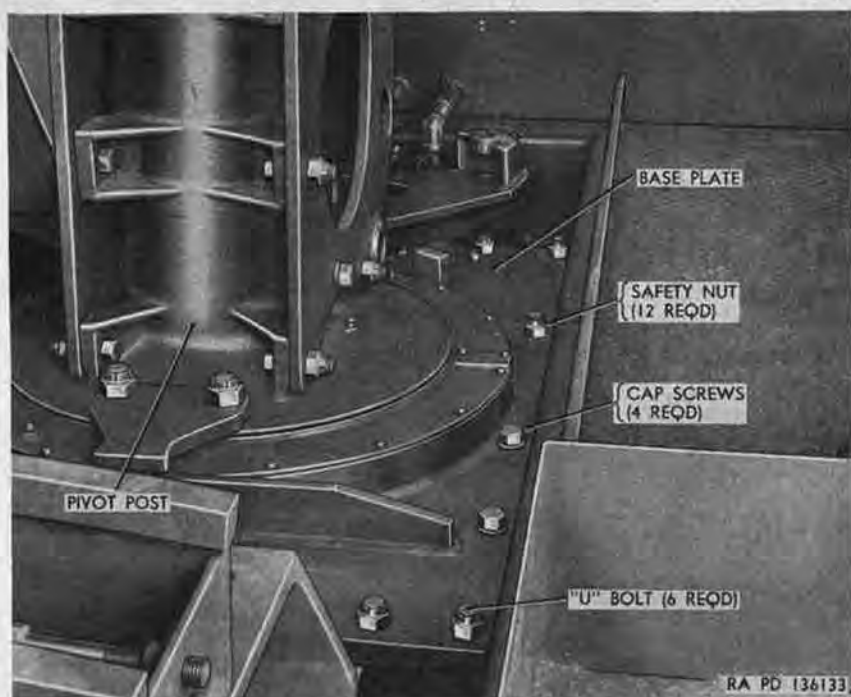
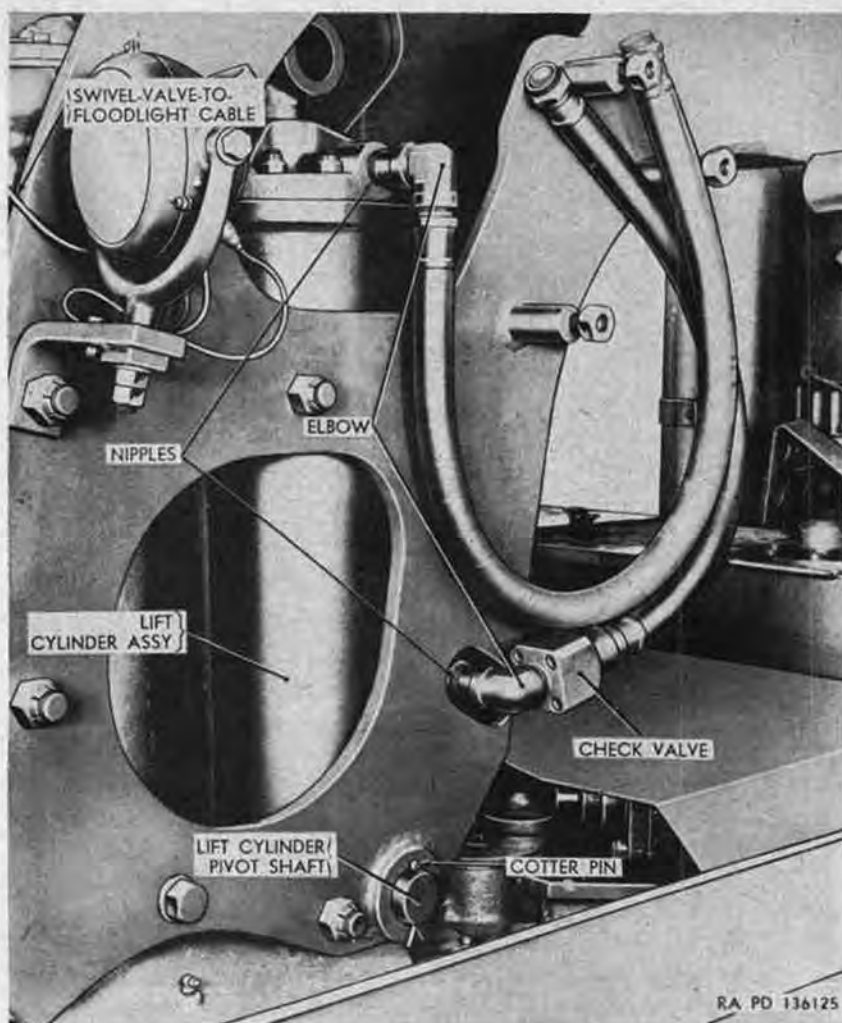
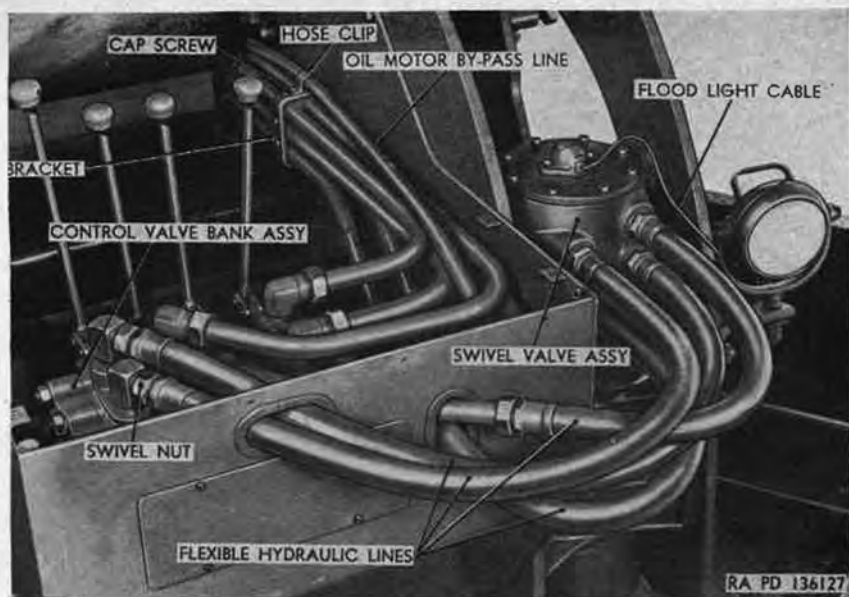
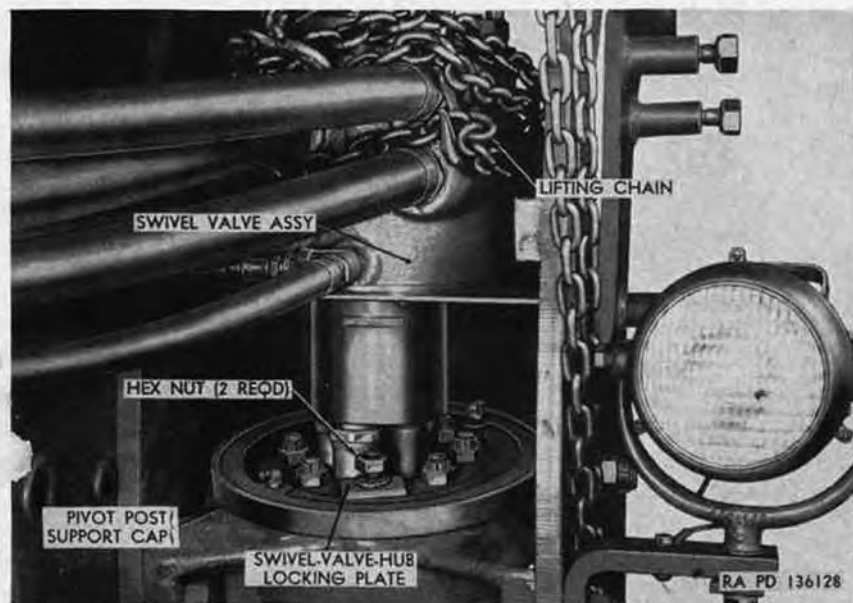

Figure 286. View of lower end of pivot post and base plate M62.
Figure 287. View of left side of pivot post shipper support, and boom lift cylinder.
Figure 288. Front view of operator's compartment and control valve bank assembly.
Figure 289. Front view of upper end of pivot post with swivel valve in raised position.
- (7) *Base plate and pivot post assembly.* The base plate and pivot post assembly as referred to in this paragraph consists of the crane base plate (fig. 286), pivot post (fig. 286), shipper support (fig. 287), swivel valve assembly (fig. 288), and operator's compartment and control valve bank assembly (fig. 288). The combined weight of these units is approximately 3,500 pounds. The base plate is bolted to the crane body, which is bolted to the left and right frame side rails. The pivot post, which is hollow, is internally supported at the top and bottom by tapered roller bearings, which are installed on a tubular support member attached to the base plate. The pivot post support cap (fig. 289) bolted to the top of the pivot post support, anchors the pivot post to the support while permitting the pivot post to rotate freely on its vertical axis. The shipper support, on which the boom and shipper assembly ((10) below) are pivoted, is bolted to mounting
- (9) *Swivel valve* (figs. 288 and 289). The swivel valve assembly (fig. 288) is installed on top of the pivot post support cap (fig. 289) with its lower end extending into the pivot post support. A locking plate secures the valve assembly to the support cap. The swivel valve assembly permits 360° rotation of the crane without twisting or breaking the hydraulic lines from the pump to the driving motor, hoist hydraulic oil motor ((13) below), boom lift cylinder ((11)
- (11) *Boom lift cylinder.* The boom lift cylinder (fig. 287) is vertically mounted to the rear of the pivot post. The lower end of the cylinder is pivoted on a shaft installed between the sides of the shipper support. The upper end of the lift-cylinder piston rod (fig. 280) is pivoted on a shaft installed between the sides of the shipper. Weight of the boom lift cylinder is approximately 265 pounds. By using overhead hoisting equipment to raise the front end of the boom to its position of maximum elevation, the boom lift cylinder can be removed without removal of the boom and shipper assembly. However, the boom lift cylinder removal procedures (par. 278) in this section require removal of the shipper and boom assembly.